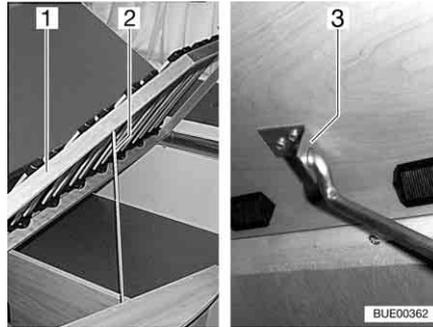

Fig. 84 Fixed bed
- Lift the slatted frame (Fig. 84,1), release the rail (Fig. 84,2) from its bracing and insert into the cavity in the holder (Fig. 84,3).
- Lift the slatted frame (Fig. 84,1), release the rail (Fig. 84,2) from the holder (Fig. 84,3) and clamp into the bracing.